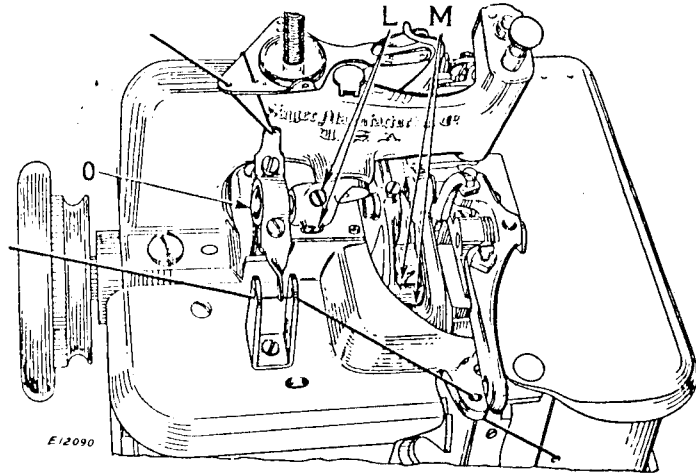

Fig. 44. Adjustments
Apply oil to oil hole (X) and oil cup (F) until the reservoirs are full. Fill the oil cup (C) at the top of the machine and thoroughly saturate the wick through the hole (B) in the casting near the top of the needle bar. Then oil the needle bar link connection (J) at the front of the machine. Also, apply oil to the knife lever and presser lever bearings (M, Fig. 44) at the back of the machine.
A variation in the amount of needle bar stroke can be obtained by adjusting the ball stud (O, Fig. 44). To lengthen the stroke, loosen the two set screws (L, Fig. 44) in the needle bar crank and move the ball stud inwardly or toward the crank. To shorten the stroke of the needle bar, move the ball stud outwardly or away from the crank, then securely tighten the set screws (L).